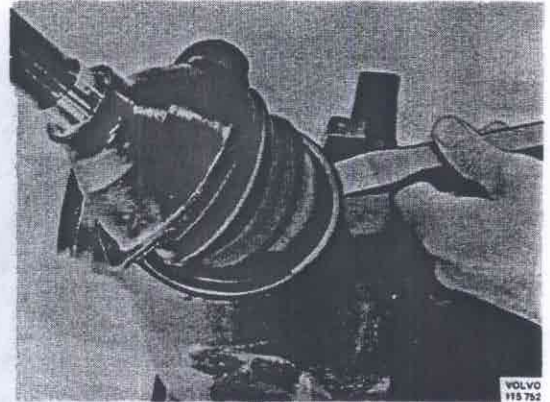

Fig. 46-80. Removing the rubber dust cover
2. Remove the rubber dust cover with a suitable tool, Fig. 46-80.